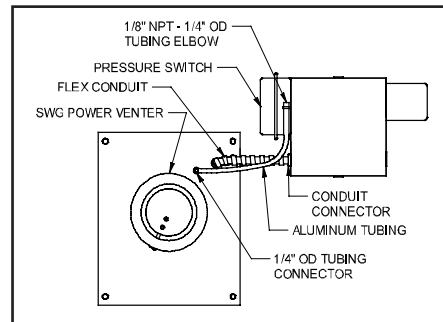

Figure 3
2. Fasten the flexible conduit from the SWG Venter into the conduit connector. Mount the CK-62 Junction box or installer supplied junction box onto the wall or floor joist without straining the flexible conduit. Fasten the CK-62 Junction Box through the four dimpled locations on the base of the box. (See Figure 3)
1. Attach the 1/4" tubing connector to the pressure tube on the SWG Venter. (See Figure 3)